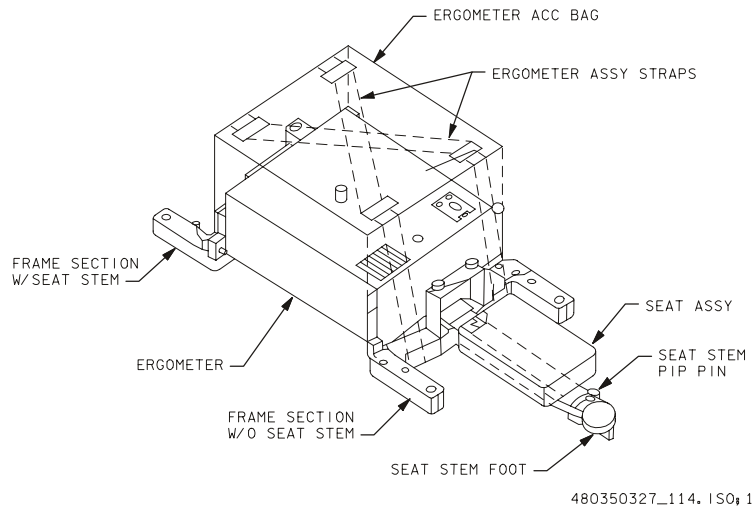

Figure 3-3.- Ergometer middeck launch/landing config (ergo assy).
launch/landing config (fig 3-3)
14. Attach Ergometer horizontally to frame with pip pins (fig 3-3)
18. Mount frame to launch/landing position in middeck using frame/AQDs (four), with seat stem facing forward (fig 3-3)
19. Using Ergo Assy Straps attach Ergo Acc Bag to Ergometer (fig 3-3)
2. Screw Manual Control Kb into bushing on Ergometer (fig 3-3)